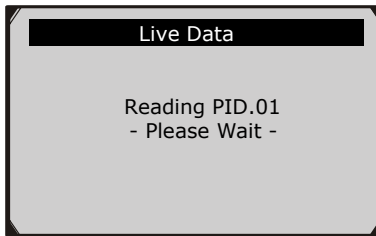

Figure 6.9
- 2) Wait a few seconds while the scan tool validates the **PID MAP**. (Figure 6.9)